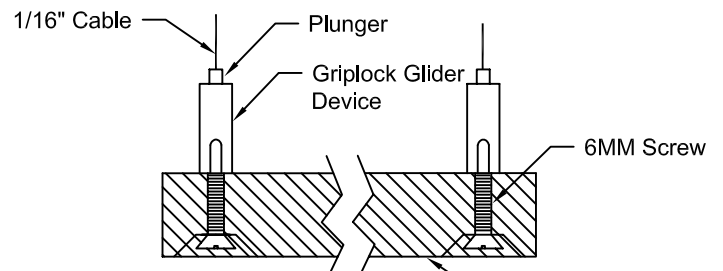

Figure 4
1. Insert end of Cable into Griplock Glider Device installed on Fixture. See Fig. 4.